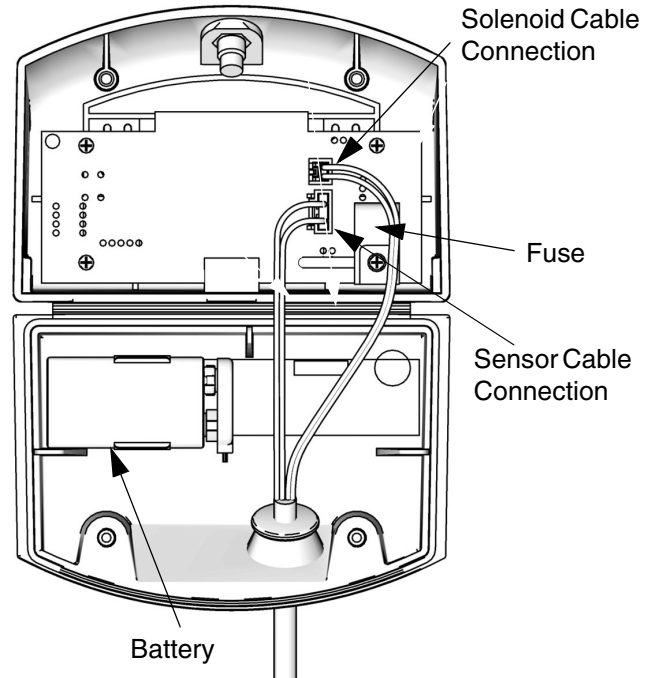

FIG. 34. DataTrak Battery and Fuse Location
5. Disconnect the used battery and replace with an approved battery. See FIG. 34.